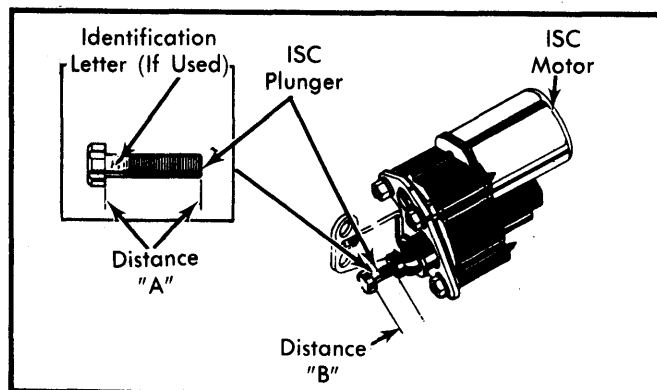

Fig. 5 Measuring Idle Speed Control Plunger
Idle Speed (With Idle Speed Control) — 1) Prior to making adjustments, check for an identification letter on ISC plunger. See Fig. 5. If no letter appears, remove plunger and measure length of plunger (distance "A" in Fig. 5). Record measurement. Install plunger into ISC and position so that distance measured from backside of plunger to ISC is less than distance "B" listed in Idle Speed Control Plunger chart.
6) After adjustment, measure distance from back of plunger head to ISC motor (distance "B" in Fig. 5). Distance must not exceed distance listed in Idle Speed Control Chart.
7) After adjustment (if necessary) of the ILC plunger, measure distance from the jam nut to tip of the plunger. See Distance "B", Fig. 5. Distance must NOT exceed 1".